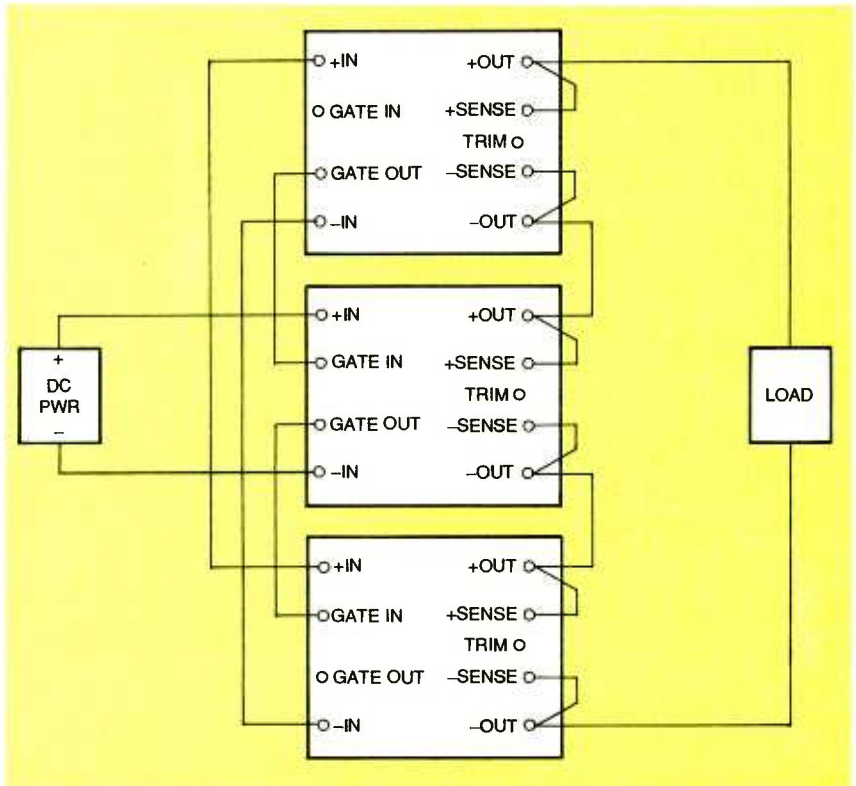

FIG. 7—SERIES CONFIGURATION. Higher output voltages can be obtained by connecting the outputs of one or more units in series.
**Series configuration.** Higher output voltages can be obtained from modular DC-to-DC converters by connecting the outputs of two or more units in series, as shown in Fig. 7. The gate terminals synchronize the converters. Adequate wire gauge is required on the inputs and outputs to ensure that each unit carries its share of the load.